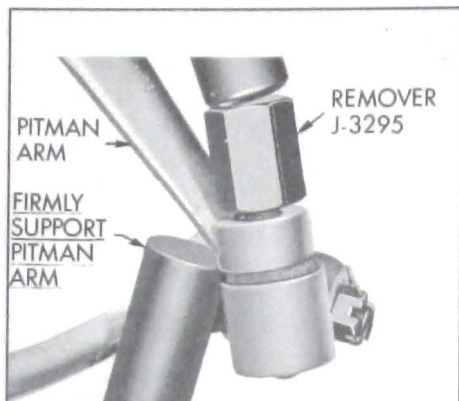
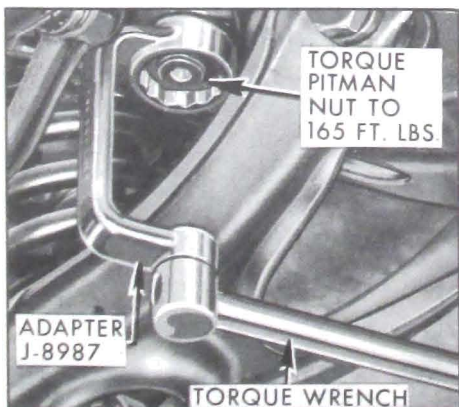

Figure 8-32—Removing Pitman Arm From Intermediate Rod
Figure 8-34—Torquing Pitman Arm Nut
4. Jack up car and remove pitman nut if pitman arm is going to be removed, using J-8987 adapter. See Figure 8-34. Disconnect intermediate rod ball stud from pitman arm by removing cotter pin, nut, then using Remover J-3295 as shown. See Figure 8-32.
4. Torque pitman nut to 165 ft. lbs., using adapter J-8987 on torque wrench. See Figure 8-34.
1. Disconnect pitman arm from intermediate rod by removing ball stud cotter pin, nut, then using Remover J-3295 as shown in Figure 8-32.